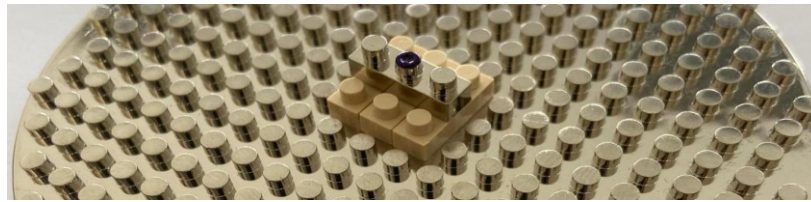

Figure 16 Connection of the Feed Cell of the Discone Antenna
5. Connect the 1X3 feed metal cell to at the top of the dielectric cell as shown in Figure 16.